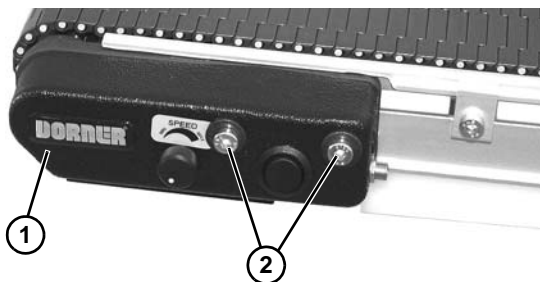

Figure 78
7. Install inframe drive side cover (Figure 78, item 1) with two head plate fastening screws (Figure 78, item 2).